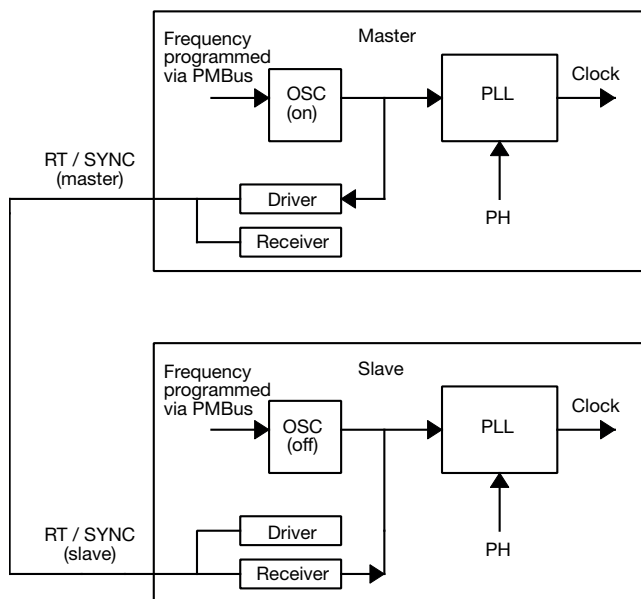

Fig. 8
- Operating frequency: the slave switching frequency will synchronize to the external clock or to the master clock. In case the external clock or master clock signal is lost, the slave will operate at the default frequency or to the frequency programmed via the PMBus; see Fig. 8.